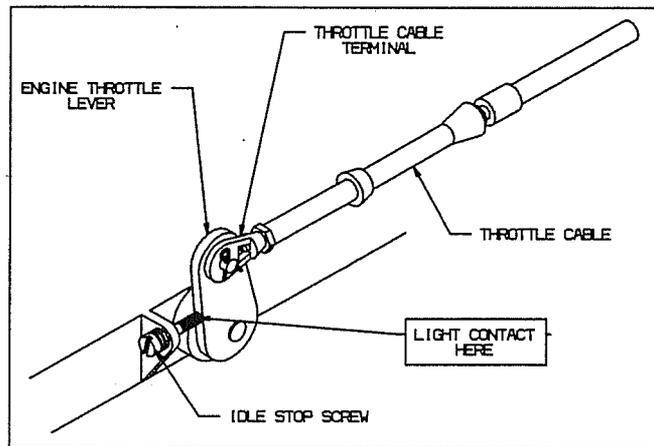

Fig. 6 - Engine Throttle Connection.
- Check the engine throttle lever is in a light contact against the idle stop screw (Refer to Fig. 6).